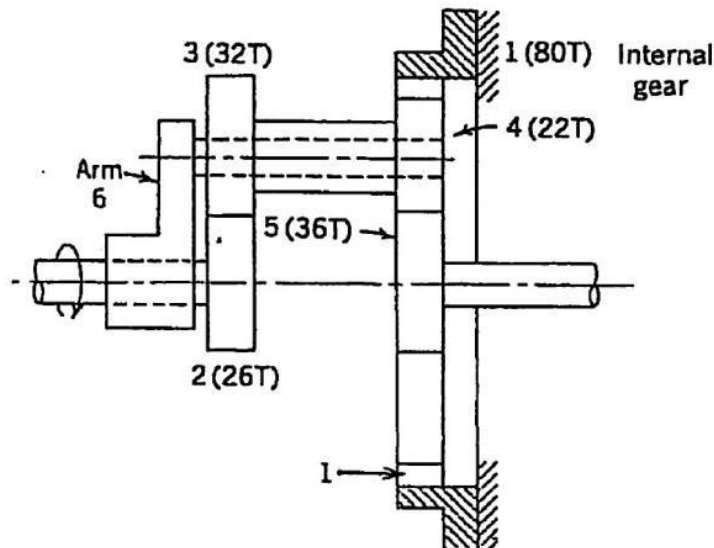

Fig. 4
9. In the planetary reduction unit shown in Fig. 4, gear 2 turns at 300 rpm in the direction indicated. Determine the speed and direction of rotation of gear 5. (10%)